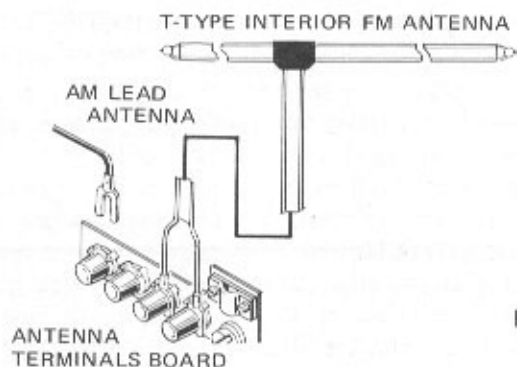

Fig. 3
- As shown in Fig. 3, first connect the antenna leads to the proper terminals on the rear of the TX-9100. Then spread out the cross section and attach it to a wall, etc. after deciding the best location by listening to an FM broadcast and watching the TUNING and SIGNAL meters (see the explanation on p.8).
- If the ferrite antenna does not provide satisfactory AM reception, connect the vinyl-sheathed AM lead antenna to the proper terminal. Stretch it out with the other end as high as possible (see Fig. 3).